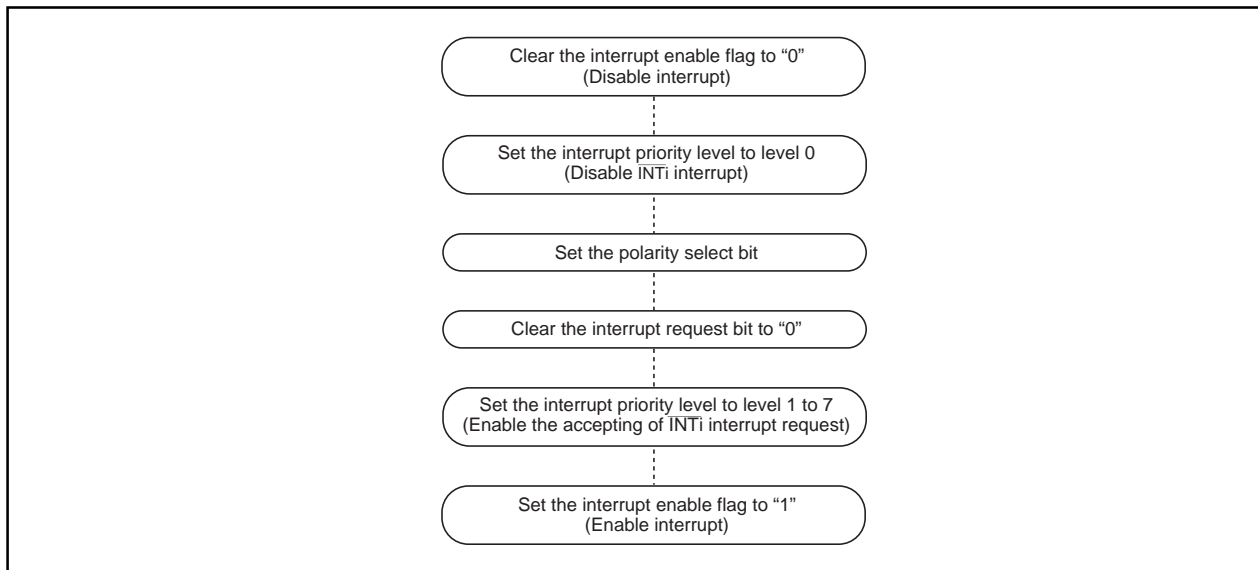

Figure 2.7.14 Switching condition of INT interrupt request
(2) Setting the stack pointer
(3) External interrupt
- When the polarity of the $\overline{\text{INT}}_0$ and $\overline{\text{INT}}_1$ pins is changed, the interrupt request bit is sometimes set to "1". After changing the polarity, set the interrupt request bit to "0". Figure 2.7.14 shows the procedure for changing the $\overline{\text{INT}}$ interrupt generate factor.